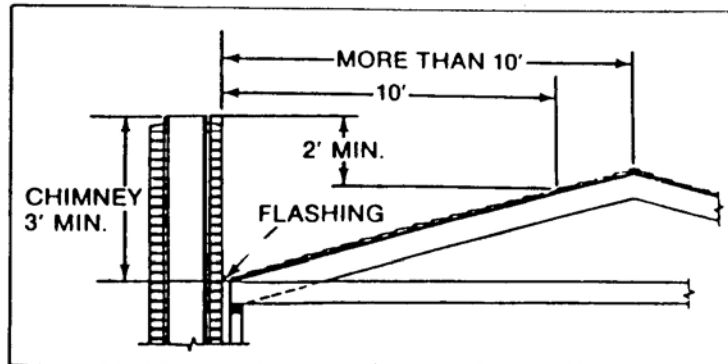

Figure 13
2. If the horizontal distance from the side of the chimney to the peak of the roof is more than 10 feet, a chimney height reference point is established on the surface of the roof a distance of 10 feet from the side of the chimney in a horizontal plane. The top of the chimney must be at least 2 feet above this reference point, but never less than 3 feet in height above the highest point where it passes through the roof. See Figure 13.